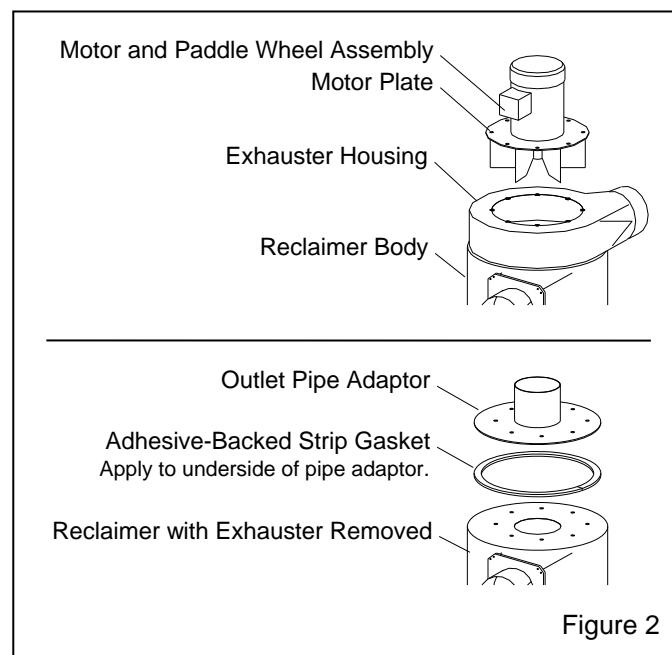

Figure 2
2.3.2.1 Refer to Figure 2 and remove the cap screws and washers, securing the motor plate to the exhauster housing, and remove existing motor plate, motor, and paddle wheel as an assembly.